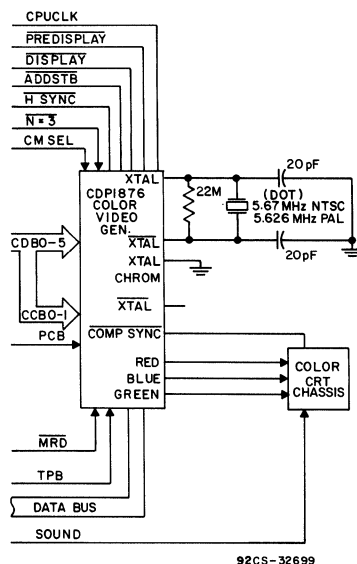

Fig. 1(b) - System diagram (same as that shown in Fig. 1(a) using CDP1876C (RGB Bond-Out Option).
In the RGB mode of operation, the RF, IF, and color demodulator circuits of the TV chassis are bypassed and the composite sync, video, and color information are supplied directly to the appropriate chassis sections. Since no color subcarrier is used, the CHROM crystal is not needed, although the XTAL CHROM input must be terminated (Fig. 1(b)). The CDP1876C, RGB Bond-Out option, offers higher color resolution and simpler interfacing than the CDP1870C composite interface systems when used with direct internal TV chassis systems.
- The page-memory functions as an extension of the CPU memory in this mode, when it is selected at address space $F800_{16}$ - $FFFF_{16}$, and the OUT 6 Instruction is not required. The PMWR and PMSSEL outputs are also enabled at this time. As shown in Fig. 1, the PMWR output is connected to the WRITE input of the page-memory and the PMSSEL output is connected to the SELECT input of the data bus buffer/separator, which prevents CPU bus contention.